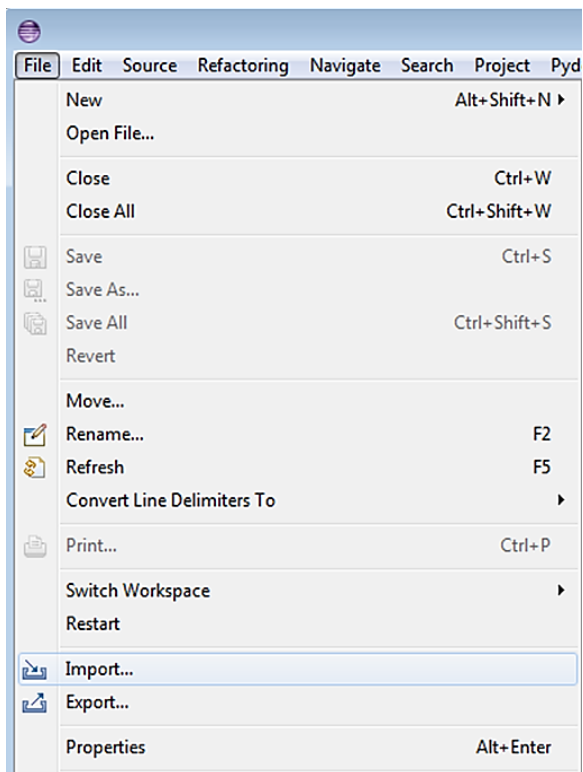

Figure 12: Importing OpenEIS with Eclipse from Local Source
1. Select File, then import, as shown in Figure 12